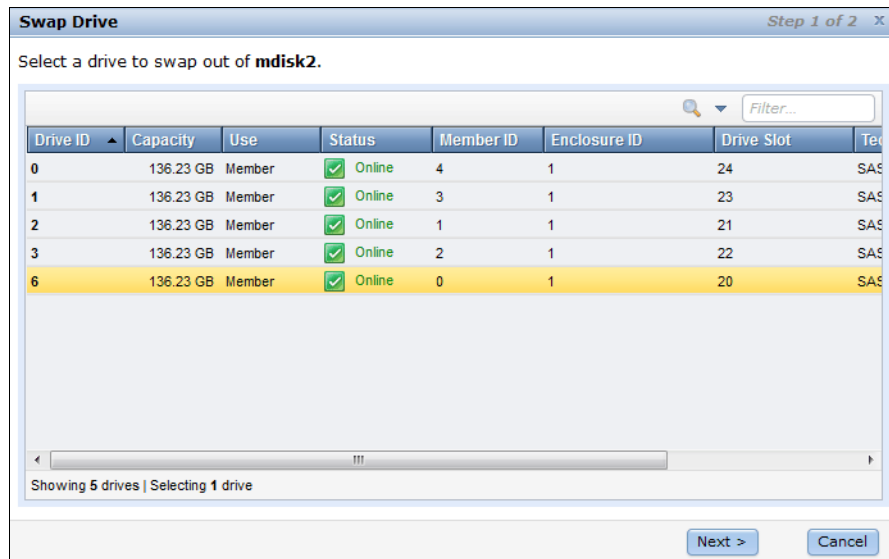

Figure 8-48 Select a drive to swap out of the MDisk
- ▶ **Swap drive:** The Swap Drive action can be used to replace a drive in the array with another drive with the status of Candidate or Spare. This action is used to replace a drive that has failed, or is expected to fail soon. For example, as indicated by an error message in the event log. Select an MDisk containing the drive to be replaced and click **RAID Actions** → **Swap Drive**. In the Swap Drive window (Figure 8-48 on page 330), select the member drive to be replaced and click **Next**.